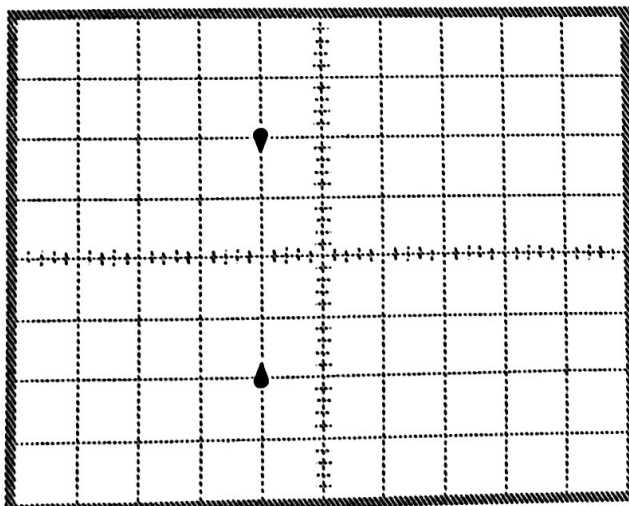
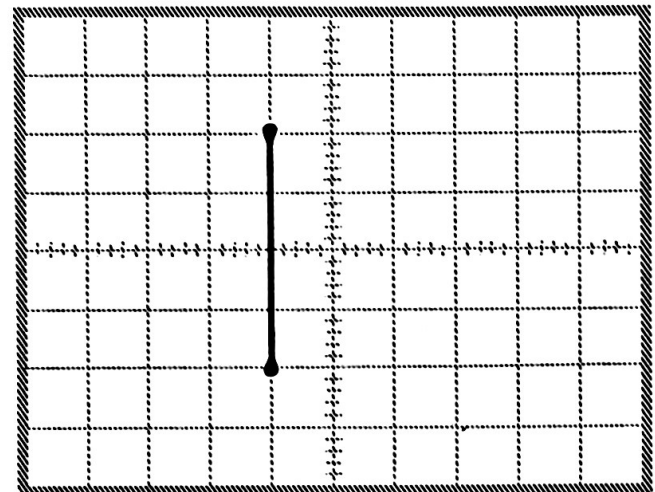

Figure 20A
Figure 20B
2. Use the Y1, Y2, and HORIZ POSITION controls and position the dots as shown in Figure 20A or 20B.
3. If the dots look like those in Figure 20A, proceed to "Attenuator Compensation."
If the dots look like these in Figure 20B (connected together), turn CHOP BLANK ADJ control R428 until the dots look like those in Figure 20A. Then proceed to "Attenuator Compensation."